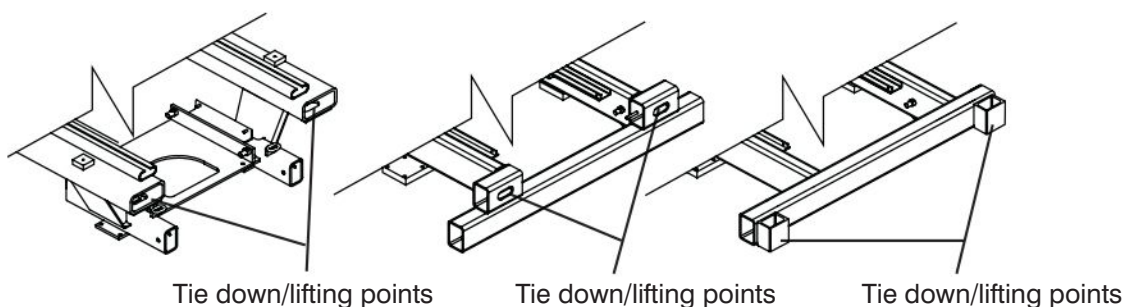

Figure 3-10. Tie Downs/Lifting Points
- The lifting/rigging must be attached to all four lifting points as illustrated in Figure 3-10.
When transporting, the aerial platform must be secured to the truck or trailer deck. Tie downs are available as illustrated in Figure 3-10.